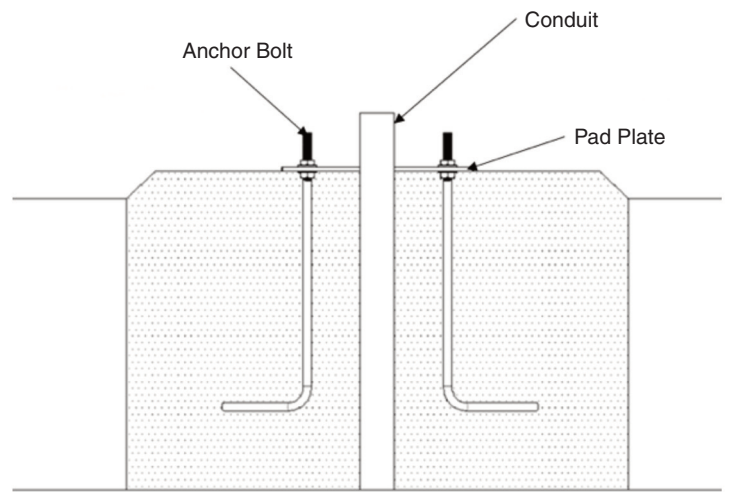

Fig. 1
1. Place the anchor bolt assembly (three (3) anchor bolts secured to the supplied cardboard template with nuts on either side) over the conduit and secure for the concrete pour. Ensure that the base of the concrete is elevated from the surrounding area to keep the bollard from standing in water.
2. Pour concrete while ensuring that the template is as level as possible. Allow the concrete to cure (see **Fig. 1**).